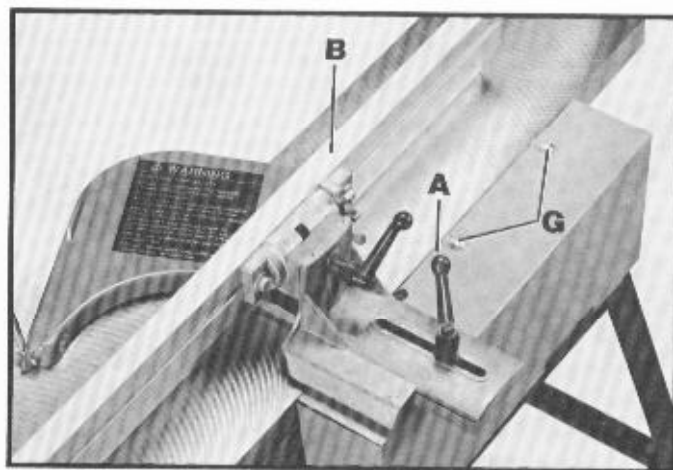
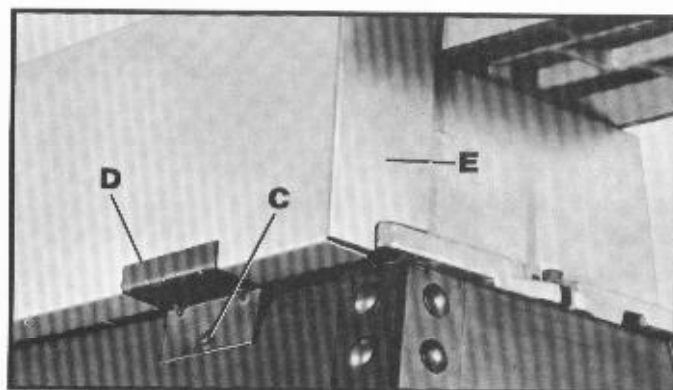

Fig. 40
Fig. 41
2. Loosen knob (A) Fig. 40, and slide the fence assembly (B), forward.
3. Remove screw (C) Fig. 41, and remove the motor pulley guard (D).
4. Loosen two screws (G) Fig. 40, and remove belt and pulley guard (E) Fig. 41.